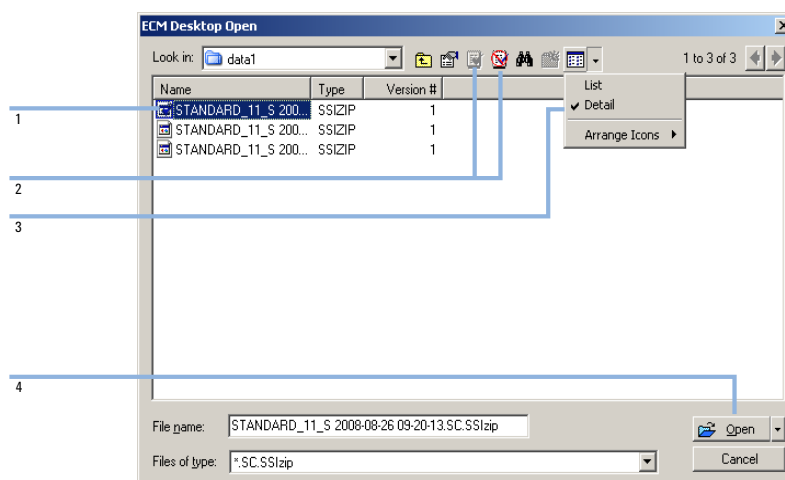
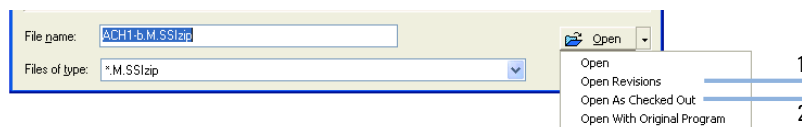
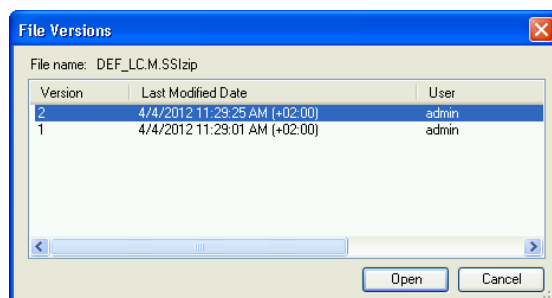

Figure 18 ECM Desktop Open dialog
Figure 19 Open Revisions command
Figure 20 File versions dialog
If the item is checked out, it is marked with a blue or red icon (see Figure 18 on page 63, marker 1):
To check out or check in an item, you can use the respective icons available in the Open dialog (see Figure 18 on page 63, marker 2). Using these icons, you can only check out the latest version of an item.
In order to see more details regarding the type and version of the available items, select the **Detail** view (see Figure 18 on page 63, marker 3). To open an older version of an item, select the **Open Revisions** command from the **Open** menu (see Figure 19 on page 64, marker 1). This opens the **File Versions** dialog, where all available versions of the item are listed (see Figure 20 on page 64).
- 3 Select **Open** in either dialog to download the item to ChemStation. In order to prevent other users from modifying the item, it is possible to select the **Open As Checked Out** command to mark the item as checked out in the central data storage system (see Figure 19 on page 64, marker 2).